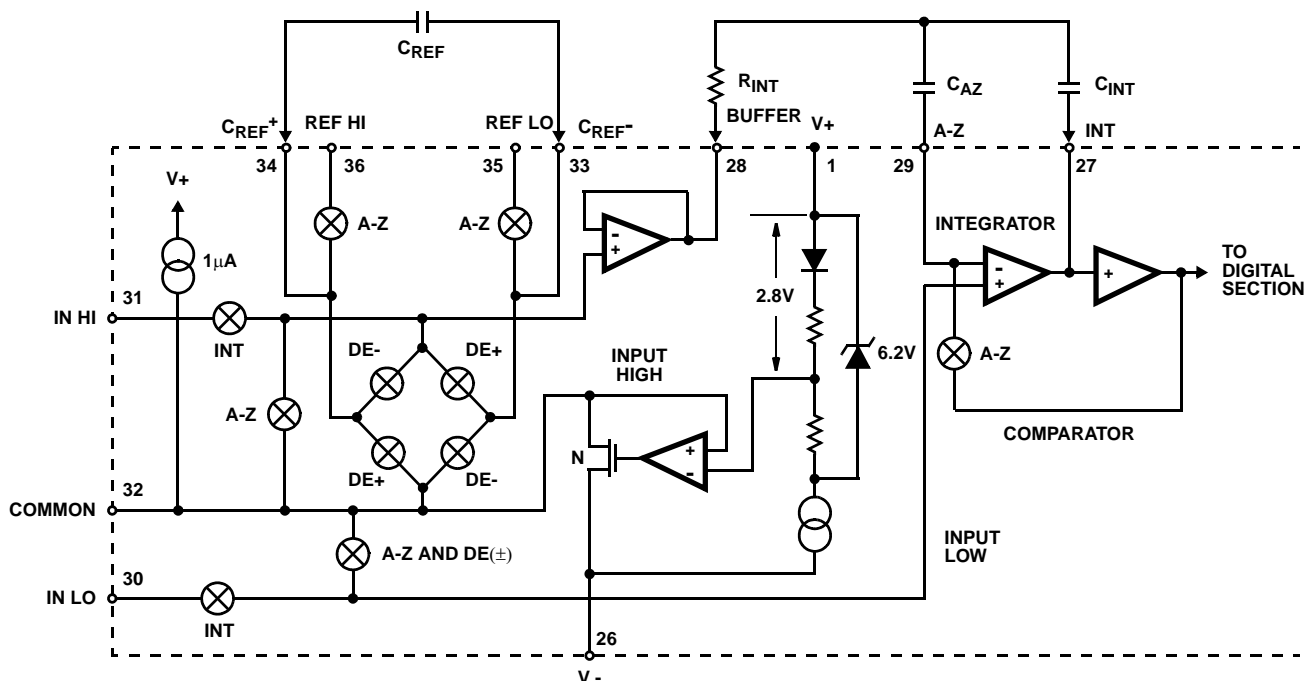

FIGURE 4. ANALOG SECTION OF ICL7126
Figure 4 shows the Functional Diagram of the Analog Section for the ICL7126. Each measurement cycle is divided into three phases. They are (1) auto-zero (A-Z), (2) signal integrate (INT) and (3) de-integrate (DE).